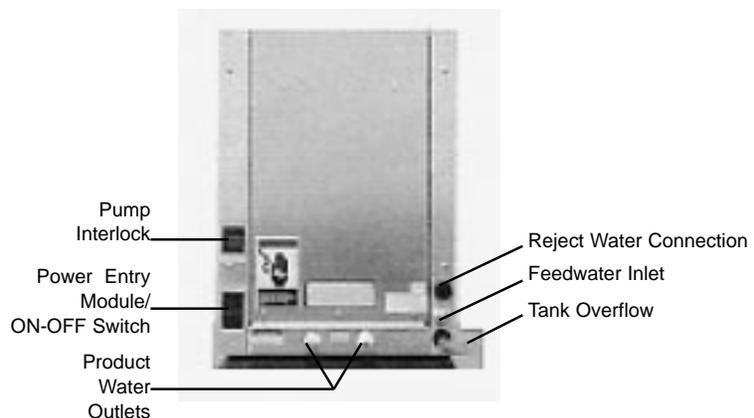
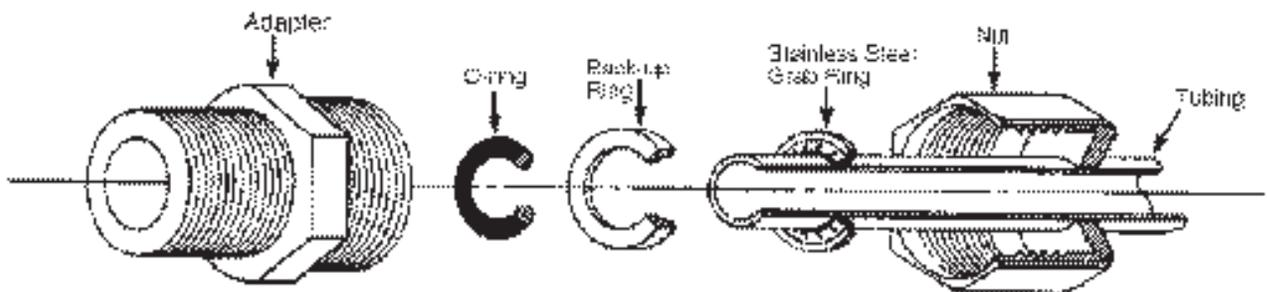

Figure 3 Connections
Figure 4 Typical Polypropylene Tubing Adapter Installation
2. Insert the quick disconnect insert into the feedwater inlet on the EASYpure RO. (See Figure 3 for location.) Install the tubing adapter onto your incoming water line. We recommend a customer supplied shut off valve be installed in your feed water line.
1. Locate the reject water tubing. This is the piece of  $\frac{3}{8}$ " O.D. tubing that has an adapter on one end and no connector on the other end. Remove the nut, grab ring, backup ring and o-ring from the reject water fitting located at the lower right of the unit. (See Figure 4 for part identification and Figure 3 for fitting location.)
1. Refer to Figure 3 and attach a customer supplied hose barb connector and  $\frac{5}{8}$ " O.D. tubing to the tubing located at the lower right of the unit as you look at the rear of the unit.
4. Connect the product and reject tubes in the right-hand membrane position on the EASYpure RO to the product and reject outlet connectors on the RO membrane cartridge. Ensure that the o-ring, backup ring, stainless steel grab ring and nut are in place on the product and reject tubing on the EASYpure RO (see Figure 4, page 12). Ensure that the product tube is connected to the product connector and the reject tube is connected to the reject connector. Hand-tighten the connections.